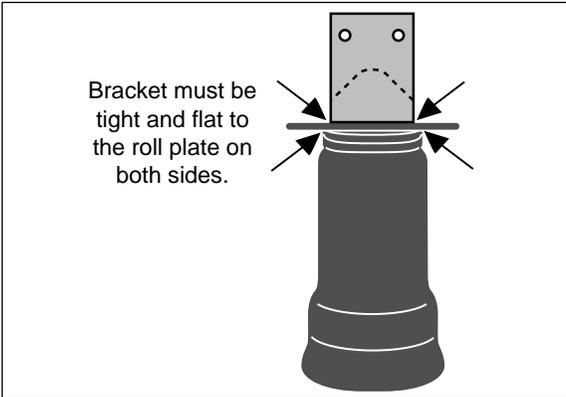

Figure 3
2. Install swivel air fitting to the top of the sleeve and tighten finger tight plus 1 1/2 turns. Use a 7/16" open end wrench being careful to tighten on the metal hex nut only. *Do not overtighten.* This fitting is pre-coated with thread sealant. Now set the upper bracket onto the thread post of the air spring. Thread nylon nut onto the thread post with the flat side up. The bracket must be tight and flat to the roll plate on both sides. Hand tight is sufficient (Figure 3). Be sure the swivel air fitting faces the front of the vehicle. *Loosely* attach the lower bracket to the bottom of the air spring (Figure 1).
Stability translates into safety and should be the priority, meaning the driver may need to sacrifice a perfectly level and comfortable ride. Stability issues include roll control, bounce, dive during braking and sponginess (fig. 3). Tuning out these problems usually requires an increase in pressure.